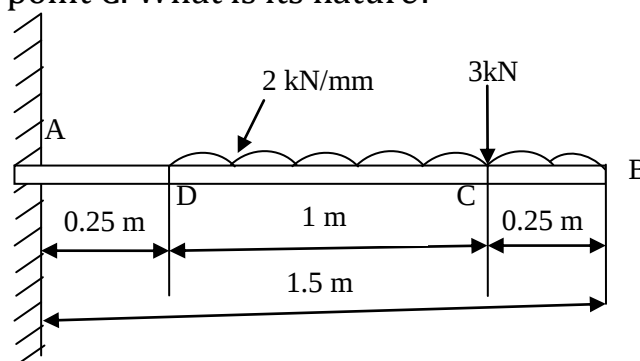

Fig. 4
5. A cantilever 1.5m long as shown in the Fig. 4, is loaded with a uniformly distributed load of 2 kN/m run over a length of 1.25 m from the free end. It also carries a point load of 3 kN at a distance of 0.25 m from the free end. Draw the shear force and bending moment diagrams of the cantilever.